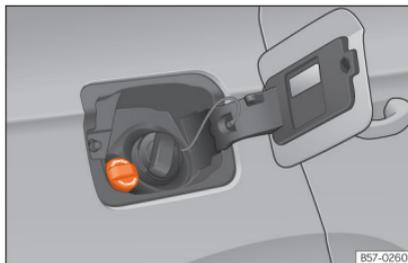

Fig. 189 AdBlue tank cap.
- Open the tank cover **»» Fig. 189**.
- Turn the SCR tank cap anti-clockwise »» Fig. 189.